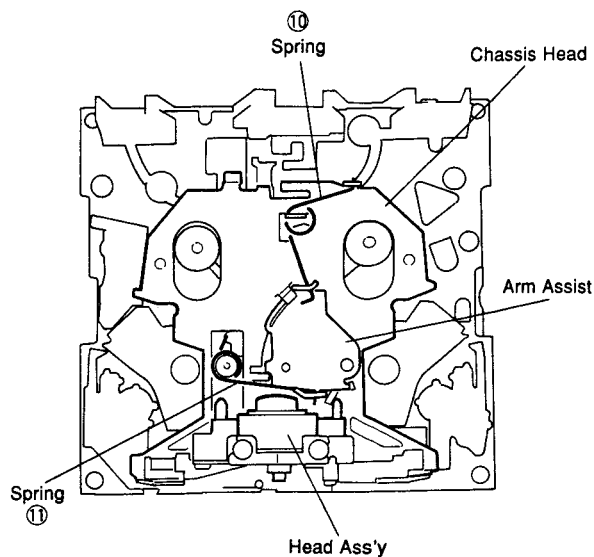

Fig. 6
- Detach 2 Springs (⑩ and ⑪) and then remove the Arm Assist in Fig. 6.